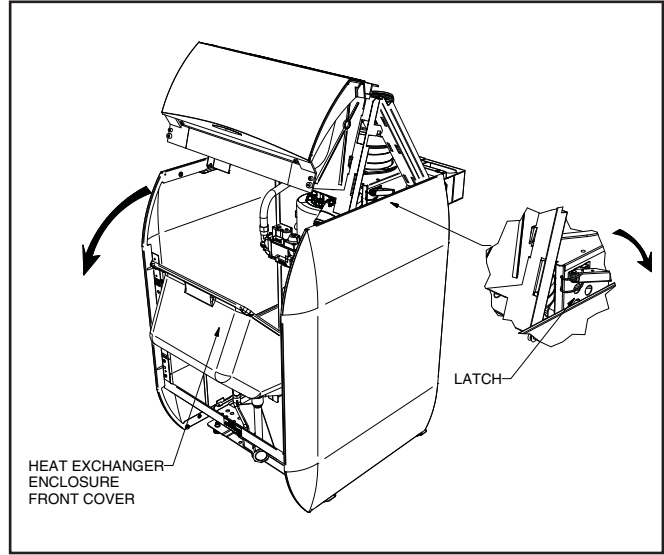

Figure 26b. Lift control panel.
- B. Lift the control panel up over the jacketing, by removing the 2 screws in front, and folding at the hinge while lifting upward from the bottom. Position the notches in the side brackets onto the jacket side panel pivots, to secure in place. (See Figure 26b).